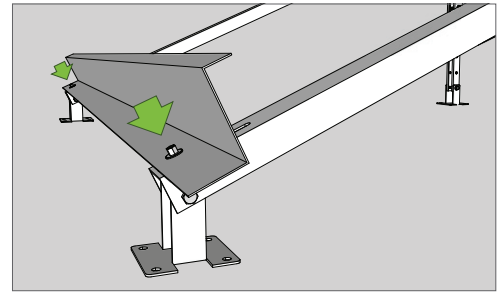

Fig 4
5. Using the supplied M8 bolts, washers & nuts, securely fasten the Z-frame rail to the side section through the lowest slotted hole as shown in fig 4.